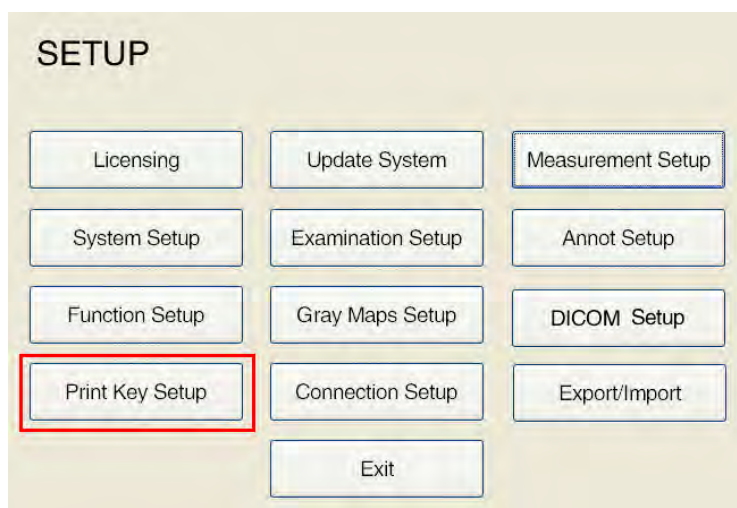

Figure 230: Main SETUP screen
1. Click on **Setup** on the ultrasound system control panel to open the main **SETUP** screen, as shown in Figure 230.